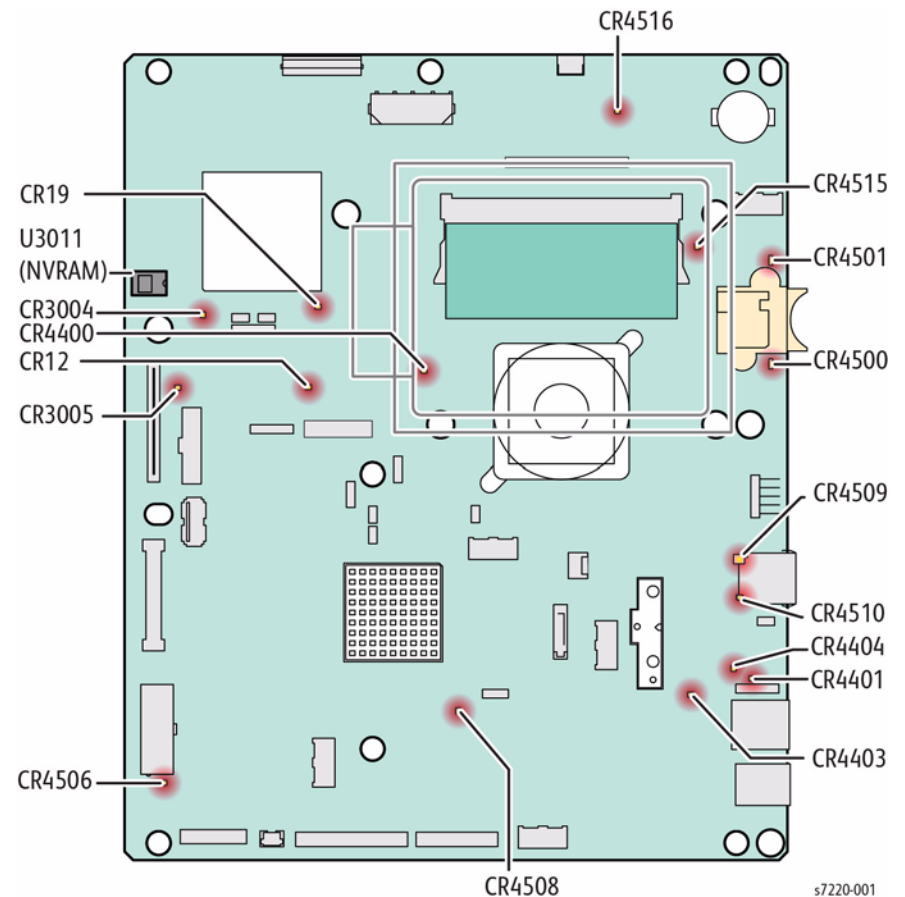

Figure 1 SBC Debug LED Locations
1. Check the state of the SBC debug LED's, Figure 1. Refer to Table 1 to determine the fault state. If the SBC debug LEDs indicate a problem, replace the SBC (PL 35.2 Item 1).